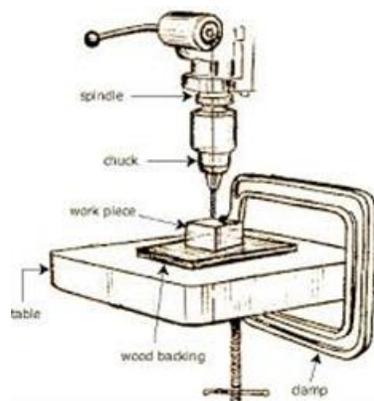

Figure Drill-8: a machine table of a drilling machine
9. Raise machine table to a proper position to start the cutting. See figure Drill-8.